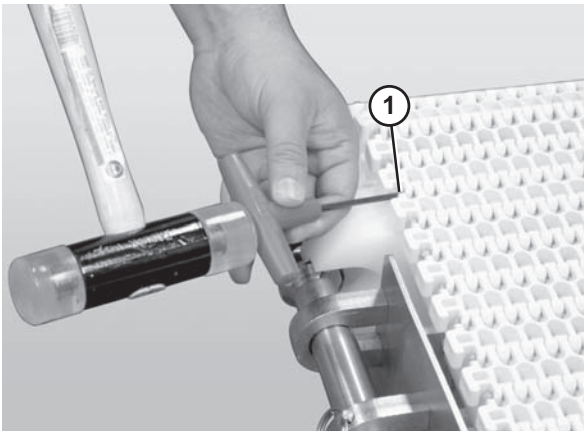

Figure 54
2. Use a punch and hammer to push the belt rod out by striking the rod end opposite the retaining head (Figure 54, item 1).